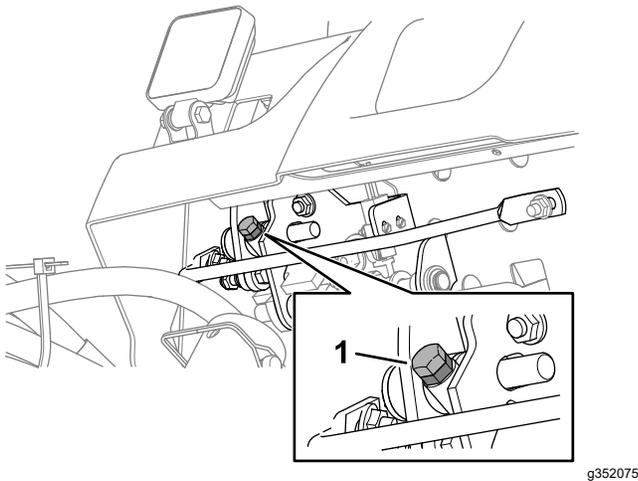

Figure 91
- To decrease the mow speed, rotate the speed stop screw (Figure 91) clockwise.